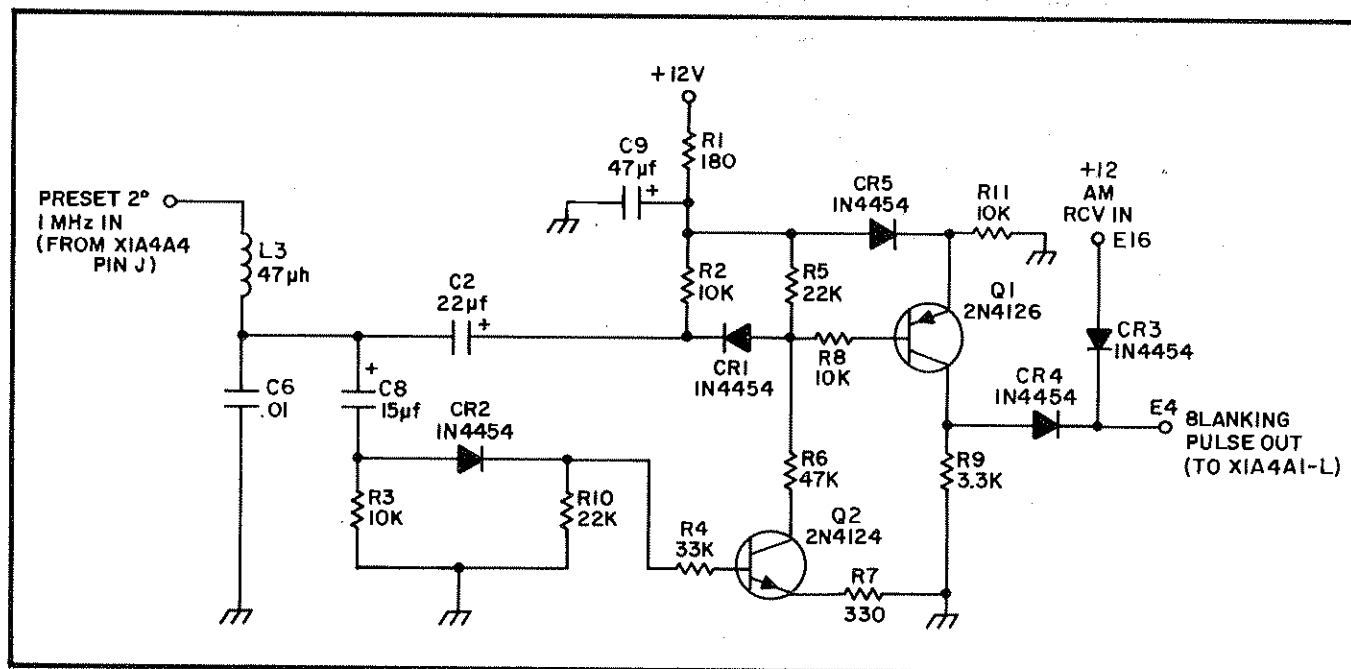

Figure 4.2 L.O. Blanker Circuitry (Part of Synthesizer Mother Board 1A4A6)
4.2.7.1 L.O. BLANKER CIRCUITRY (PART OF SYNTHESIZER MOTHER BOARD 1A4A6) Figure 4.2